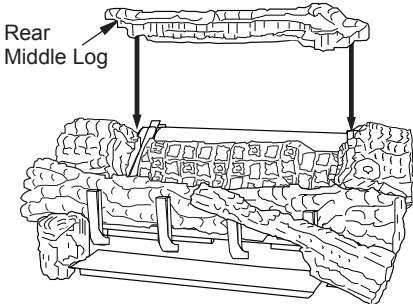

Figure 44 - Installing Rear Middle Log
8. The rear middle log (18" D-068, 24" & 30" D-042) should fit between the ramp log and the rear burner. The left and right middle logs have recessed areas for the rear middle log to sit into (See Figure 44). There may be a small gap between the rear middle log and the ramp log, this is normal.. Be careful not to push the rear burner out of position while installing this log.